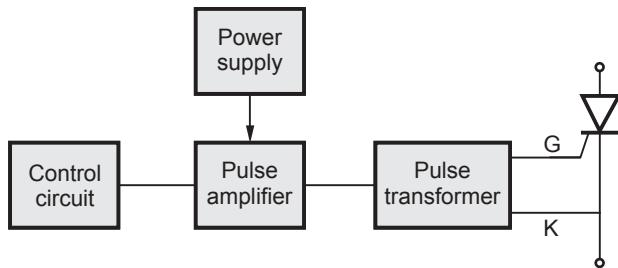

Fig. 1.10.1 Main blocks of firing circuit
- ii) The triggering pulses generated by the control circuit need to be amplified and passed through the isolation circuit. The triggering pulses generated by the control circuit have very small power. Hence their power is increased by pulse amplifier. Fig. 1.10.1 shows the scheme. The firing circuit operates at low voltage levels (5 to 20 volts). And the thyristor operates at high voltage levels (greater than 250 volts). Hence there must be electrical isolation between firing circuit and thyristor. This isolation is provided by the pulse transformer or optocouplers.